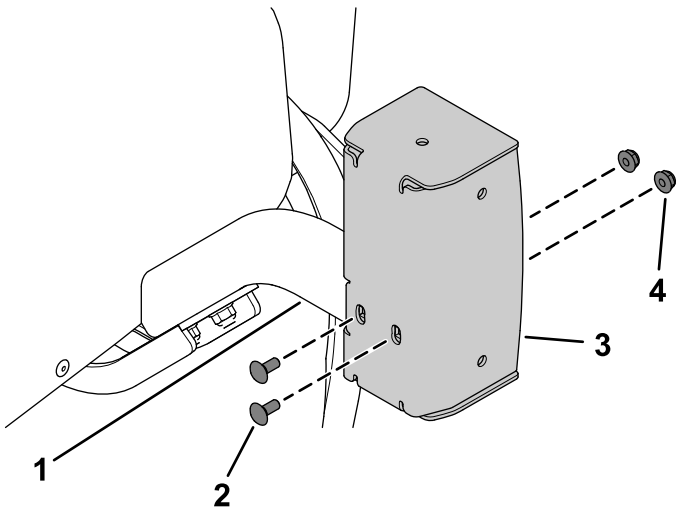

Figure 24
- Secure the left light housing and right light housing to the left short mount and right short mount using 4 carriage bolts (1/4 x 5/8 inch) and 4 locknuts (1/4 inch) as shown in Figure 24.